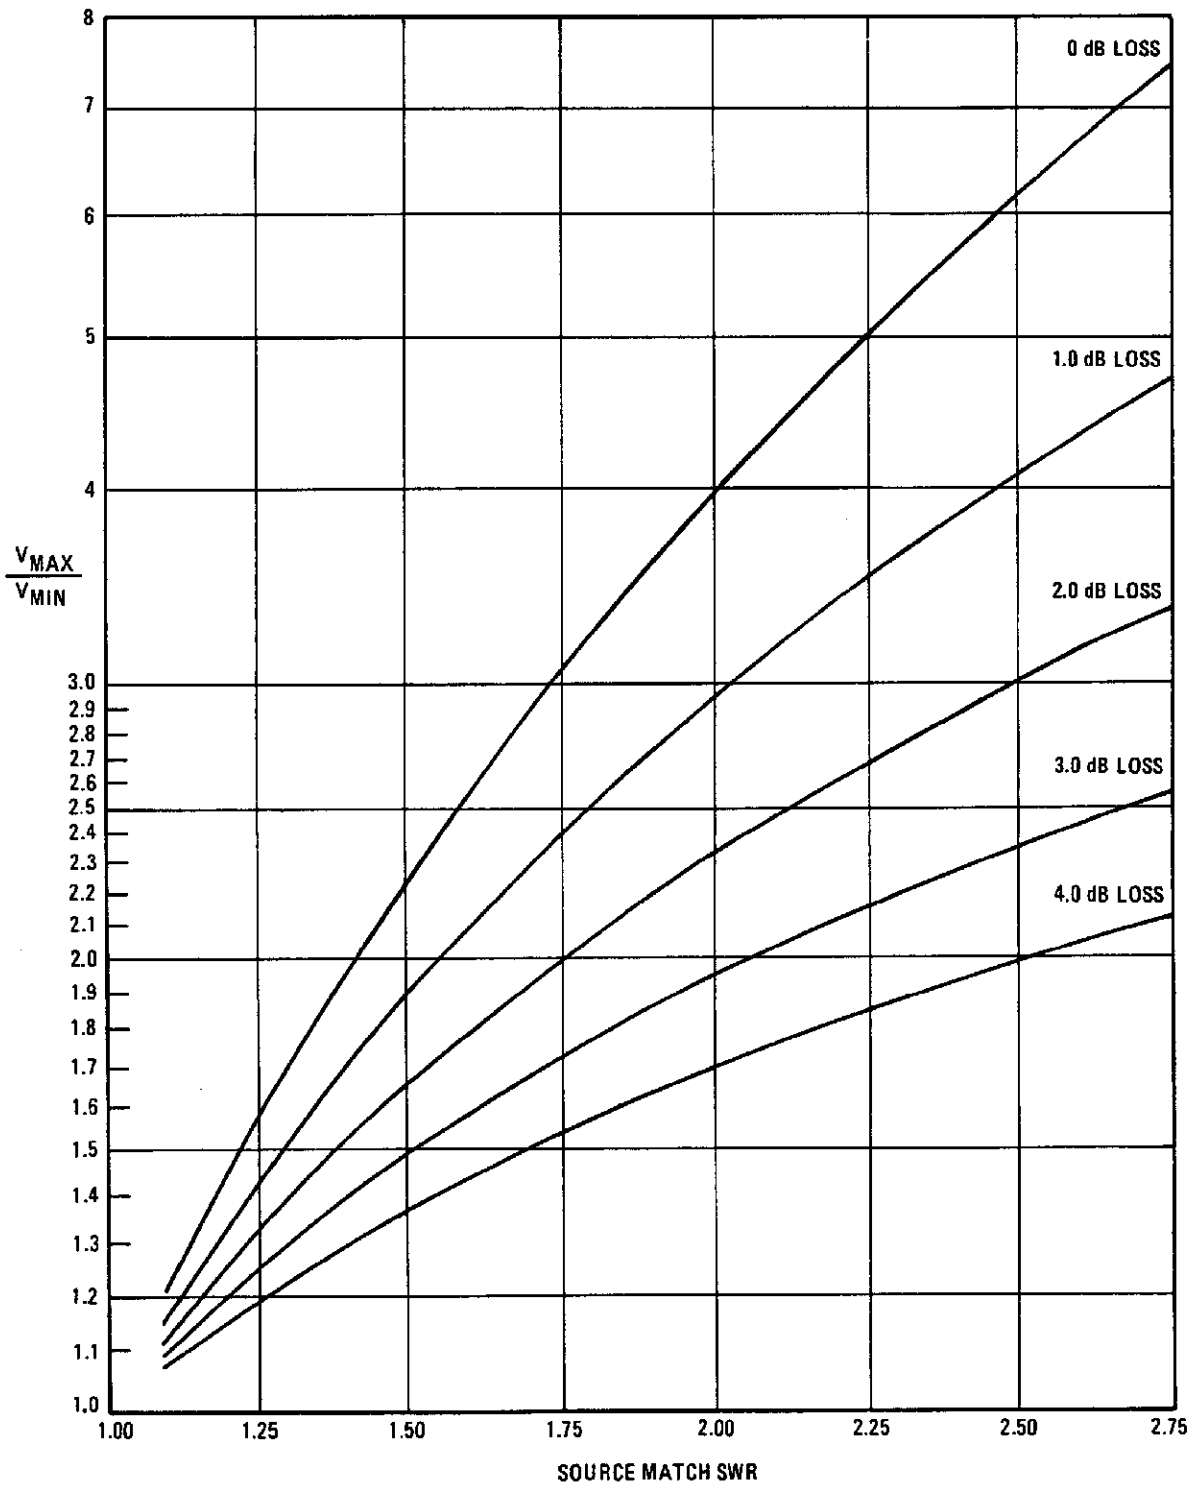

Figure 4-14. Conversion of Oscilloscope Trace to Source Match SWR
6. Convert the V_{MAX}/V_{MIN} ratio noted in step 4 into source match SWR, using Figure 4-14 and the cable loss calculated in step 5. The SWR should be less than 1.9 (2.1 for Option 002).
11. Convert the greatest V MAX and V MIN ratio noted in step 10 into source match SWR using the 0 dB LOSS line in Figure 4-14. The SWR should be less than 1.9 (2.1 for Option 002).
16. Convert the greatest **V MAX** and **V MIN** ratio noted in step 15 into source match SWR using Figure 4-14 on the 0 dB loss line. Record SWR on test record step 16.